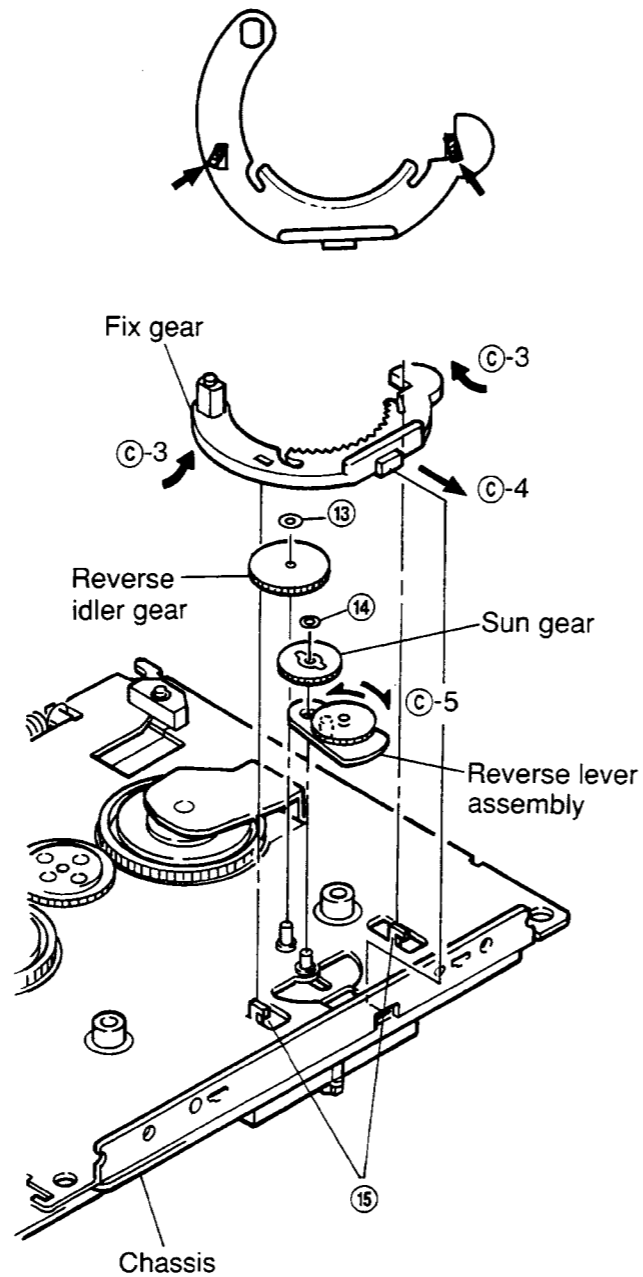

Figure 13
- (1) Remove M1.2 lock washer (13), pull it up from the stud of the chassis and remove the gear as shown in Figure 13.
- (2) Remount following the removal steps in the reverse order.
- (1) Remove M1.2 lock washer (14), pull it up from the stud of the chassis and remove the gear as shown in Figure 13.
- (2) Mount it, following the removal steps in the reverse order.
- (1) Adjust the two mounting claws for the fix gear on the chassis (15) and remove the section (C-3) of the gear by pulling it up in the direction of the arrow shown in Figure 13.
- (2) Insert the section (C-4) of the new gear into the chassis, and mount it following the removal steps in the reverse order as shown in Figure 13.
- (1) Remove both the fixing gear and the sun gear and remove the reverse lever assembly as shown in Figure 13.